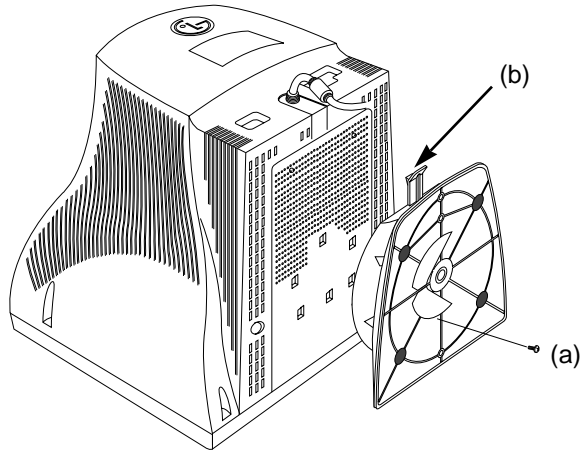

### Figure 1. Cable Connection
- Install the cable for adjustment such as Figure 1 and run the alignment program on the DOS for IBM compatible PC.